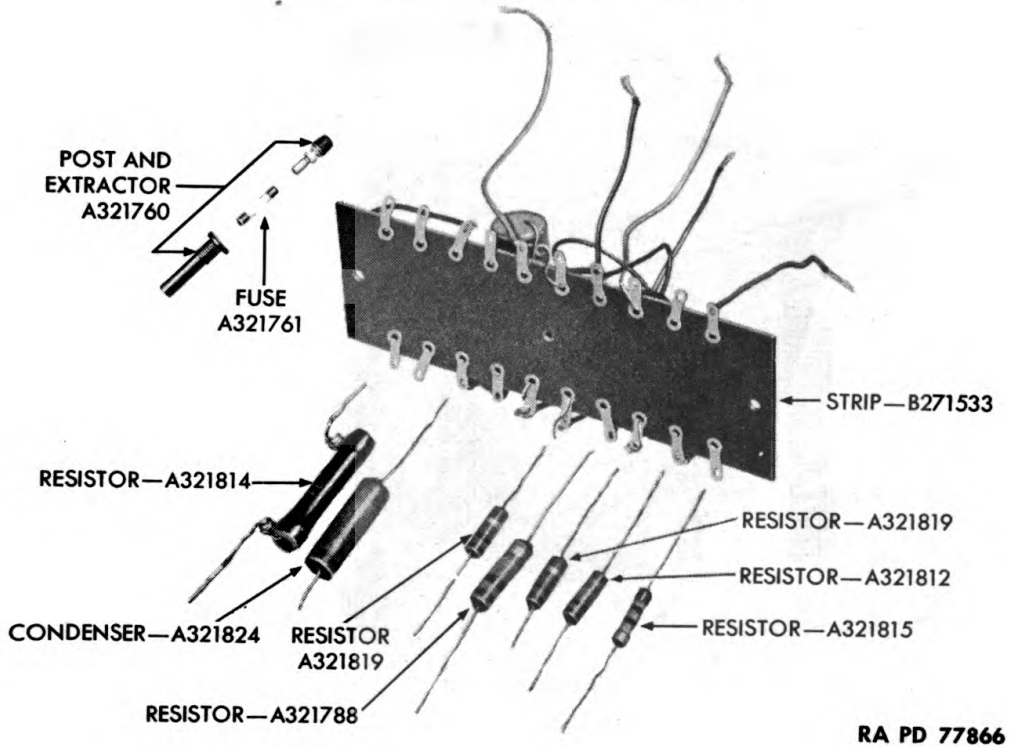

Figure 16 — Removal of Parts From Upper Side of Mounting Strip
(12) The condensers and resistors can be removed from the strip by unsoldering their connecting leads to the lugs as shown in figures 16 and 17.